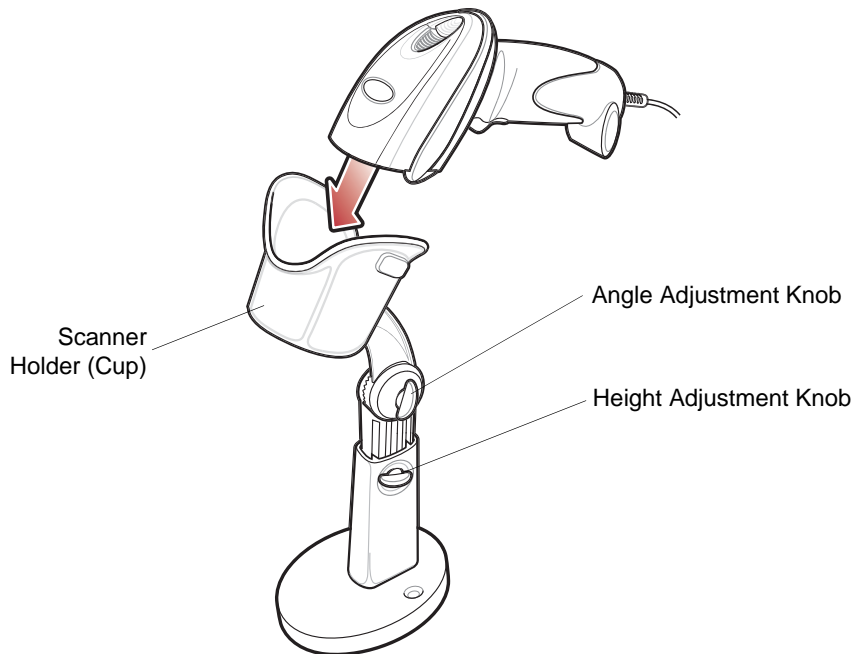

Figure 2-13 Inserting the Digital Scanner in the Intellistand
2. Insert the digital scanner in the Intellistand by placing the front of the digital scanner into the stand's "cup" (see Figure 2-13).